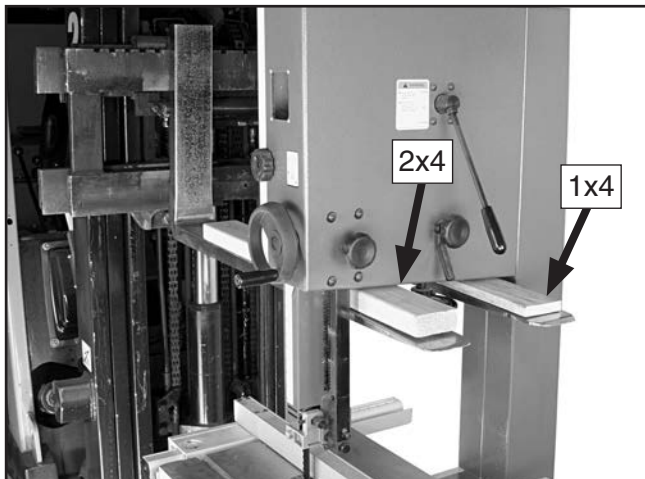

Figure 18. Example photo of lifting bandsaw with forklift using wood shims.
3. Carefully place the forklift forks under the head and insert a 1x4 block between the head and the left fork and a 2x4 block between the head and the right fork so the bandsaw is level, as shown in **Figure 18**.